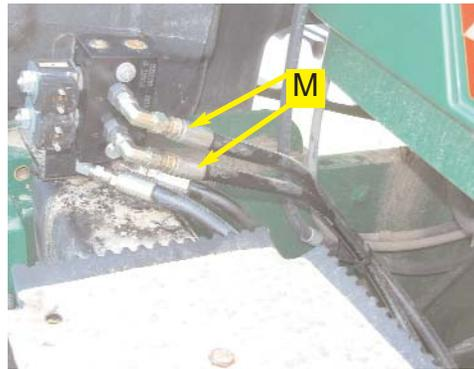

Figure 6b. Routed steering output hoses.
- b. Connect the steering hoses (**J**) from the **A** and **B** ports on the Automated Steering Block to the adapter fittings installed in the hydrostatic steering pump. (Figure 6b. and 6c.)